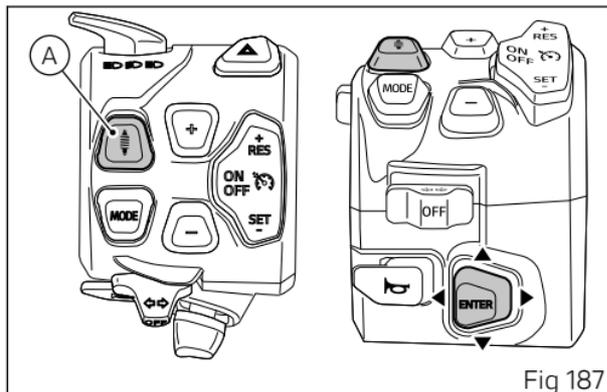

Fig 187
- Press button (A, Fig 187) to activate the specific menu.